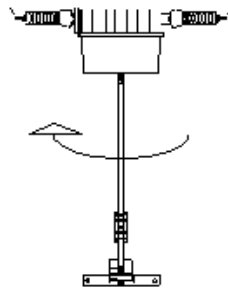

Figure 37
2. Turn the tube in the direction indicated by the arrow, open turn direction, see figure 37.
3. Turn the tube in the direction indicated by the arrow, open turn direction, see figure 37